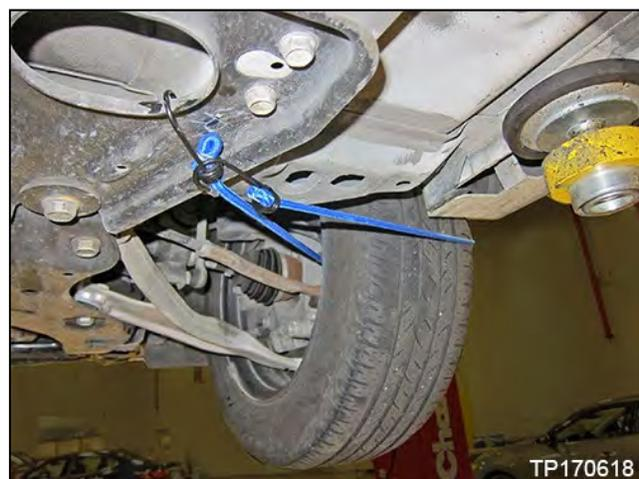

Figure 10
14. Secure the front right tire with a suitable strap (Figure 10).